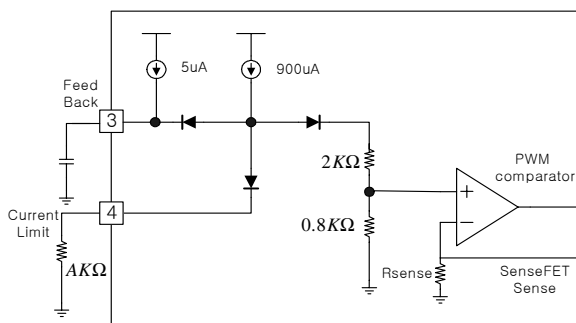

Figure 14. Peak current adjustment
**8. Adjusting Current limit function:** As shown in fig 14, a combined 2.8KΩ internal resistance is connected into the non-inverting lead on the PWM comparator. A external resistance of Y on the current limit pin forms a parallel resistance with the 2.8KΩ when the internal diodes are biased by the main current source of 900uA.